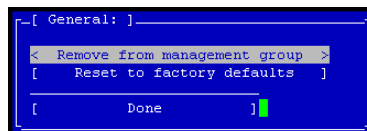

Figure 229. Resetting to Factory Defaults
1. On the Configuration Interface main menu, tab to Config Management and press Enter. The Configuration Management window opens, shown in Figure 229.